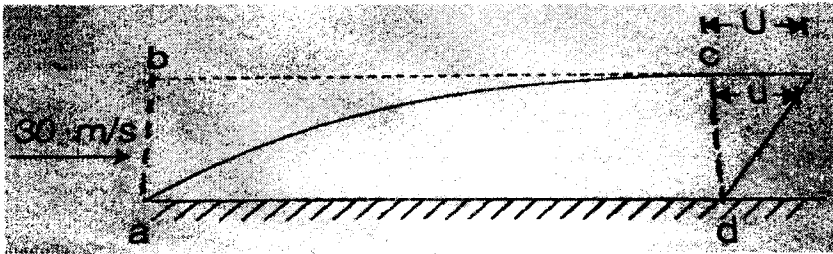

Figure 7
- (b) A source of strength $3.0 \text{ m}^3/\text{sec-m}$ is located at the origin and a two dimensional uniform rectilinear flow at 1.0 m/sec velocity in positive x -direction is superimposed on it. Determine (i) location of stagnation point (ii) maximum value of stream line passing through stagnation point (iii) velocity at $(-0.30, 1.5)$. (5)
- VIII. (a) What is the physical significance of displacement and momentum thicknesses of a boundary layer? (5)
- (b) Air flows at 30 m/s on a wide plate kept parallel to the air stream. Assuming the laminar boundary layer to follow the velocity distribution $\frac{u}{U} = \frac{y}{\delta}$, determine the rate of flow across the section 'bc', if section 'cd' is located 0.25 m downstream of the leading edge of the plate, where boundary layer thickness is 0.15 mm as shown in figure 7. (5)